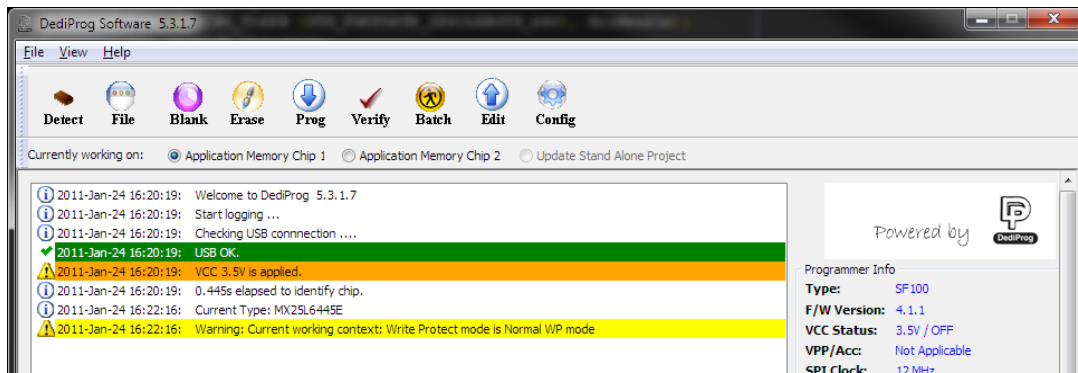

Figure 3-5. Dediprog event log
- If a list of events is displayed, the list should include detection of the connection between the host and target PCs (see Figure 3-5).